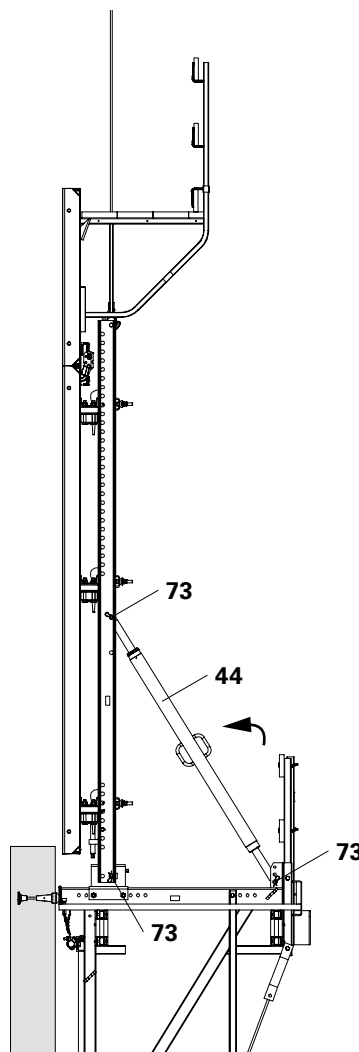
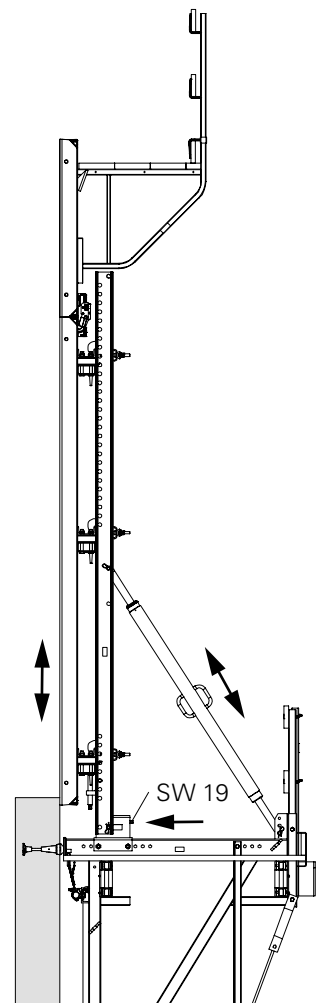

Fig. B2.28c
Fig. B2.28d
5. Fix Adjustable Brace CB 164-224 (44) to the bracket using Bolts $\varnothing 25 \times 180$ (73) and Cotter Pins 4/1. Spindle out to approx. length and attach to Strongback CB (70). (Fig. B2.28c)
6. Detach crane lifting gear. Close decking (31) on the concreting platform.
8. Align formwork, see B3. (Fig. B2.28d)